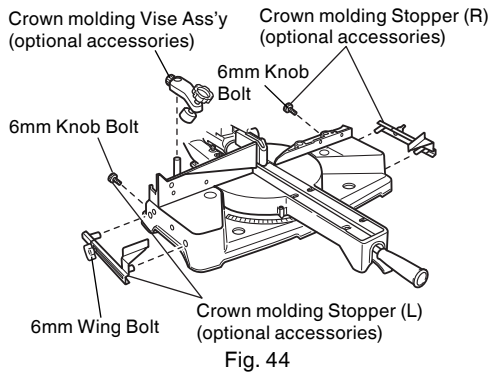

Fig. 44
- (1) Crown molding Stopper (L) and (R) (optional accessories) allow easier cuts of crown molding without tilting the saw blade. Install them in the base both-sides side to be shown in Fig. 44. After inserting Tighten the 6mm knob bolts to secure the crown molding Stoppers.